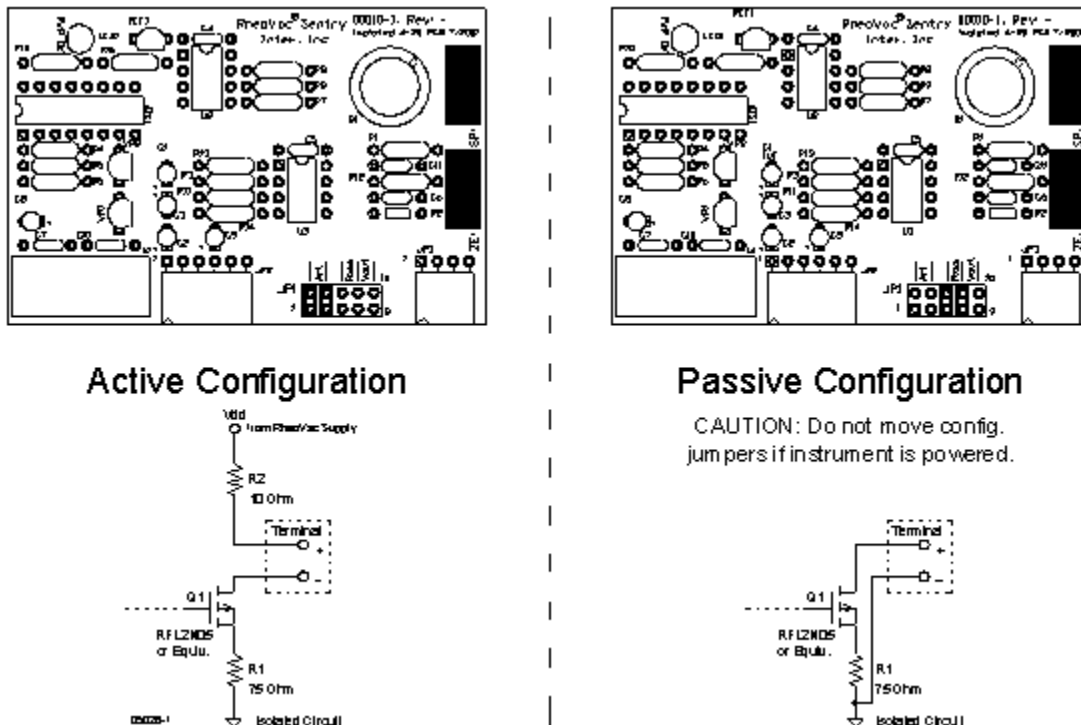
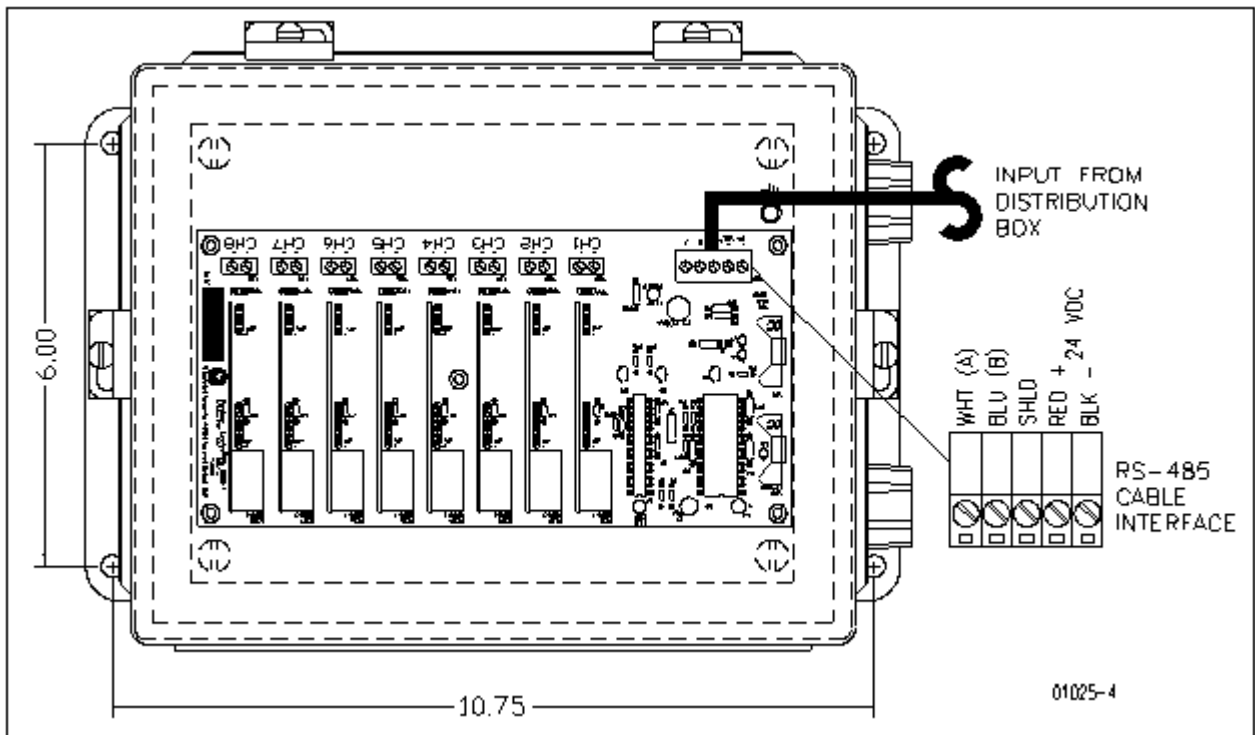

Figure 7 4-20 mA Output Circuit
Figure 8 Optional Transmitter Box
- D. Transmitter Box (optional) - For driving eight (8) remote 4-20 mA analog signals from one RS-485 input port. (See Figure 8)
2. Connect up to eight (8) signal wire pairs to the indicated terminals for isolated 4-20mA outputs.
3. Figure 8 provides the *RheoVac* wiring detail for the 8 channel 4-20 mA outputs. Table II provides the appropriate connection identification. Model 950 transmitters are configured as active (transmitter sources the current) when shipped. To change to the passive mode (receiver to source the current), extract each small 4-20 board, find the JP1 pins, and move the two jumpers from the "Act" pins to the "Pass" pins (two positions to the right of factory settings). Figure 7 shows the current output circuit. The figure also illustrates the active mode and the passive mode configurations.